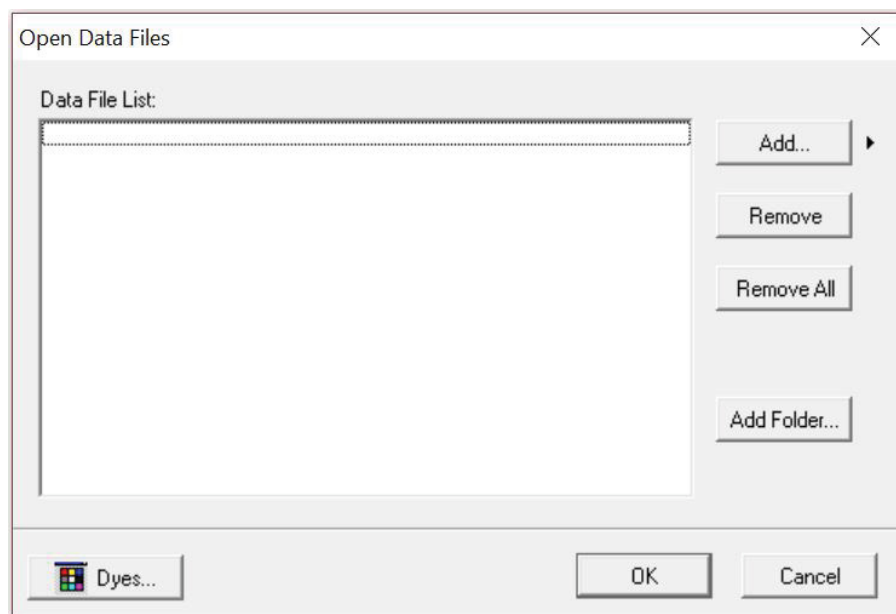

Figure 28. The GMHID-Spectrum 'Data File List'.
4. Select **Open**, and the selected files will appear in the 'Data File List' (Figure 28).